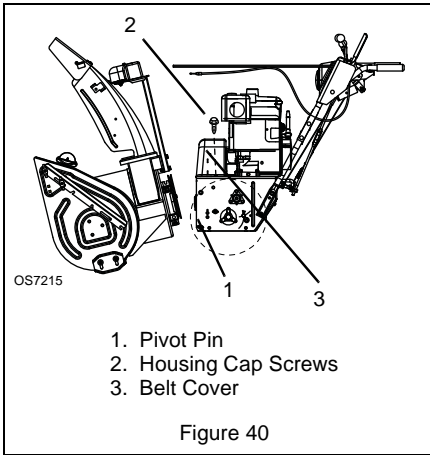

Figure 40
2. Remove belt cover (Figure 40).
7. Remove hex bolts securing housing to frame (three on each side). Tip housing and frame apart on pivot pins (Figure 40).